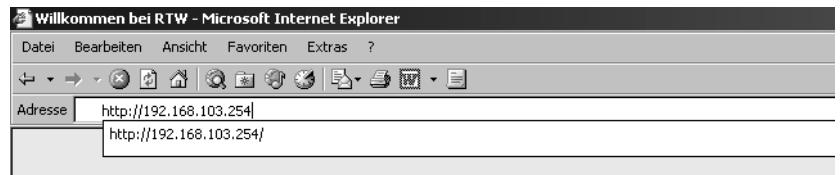

Fig. 8-32: Entering the IP-Adress
1. Start your internet browser and enter <http://192.168.103.254> in the address field (see Fig. 8-32) followed by the hit of the return (Enter) key.